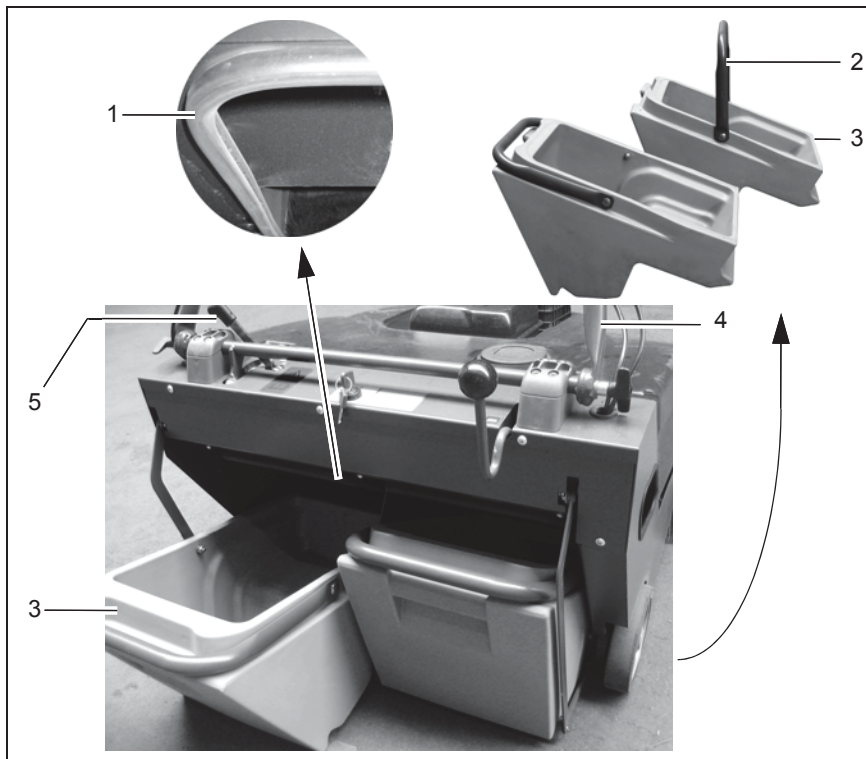
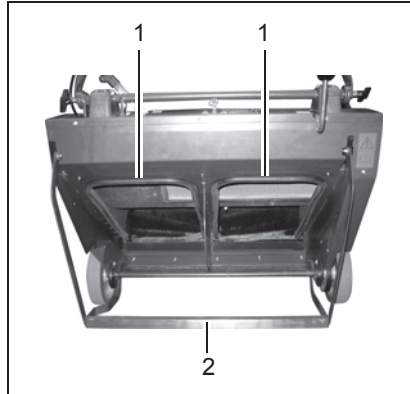

Fig. 24
Fig. 25
1. Switch the machine off and move the lever (Fig. 24/5) for locking the dirt hoppers to the right (looking in drive direction) and, at the same time, pivot the handlebar (Fig. 24/4) forwards. The frame (Fig. 25/2) of the dirt hopper is lowered.
The engine must be at a standstill before one or both dirt hoppers (Fig. 24/3) are removed. Risk of injury through swirling waste and dust!
2. Hold the dirt hopper (Fig. 24/3) by the handle (Fig. 24/2) and pull it to the rear and out of the machine
Check the fill level of the dirt hoppers (Fig. 24/3) regularly and empty it regularly and as necessary.
1. Insert the dirt hoppers (Fig. 24/3) back in the machine from the rear until they perceptibly engage in the frame (Fig. 25/2).
2. Pivot the handlebar (Fig. 24/4) towards the rear until the lever (Fig. 24/5) for locking the dirt hoppers audibly engages.
Check the dirt hopper seals (Fig. 24/1) (Fig. 25/1) for wear on a weekly basis and change the seals as necessary.
2. Pull the seals (Fig. 25/1) from the edges.
3. Press new seals (Fig. 25/1) on the edges.